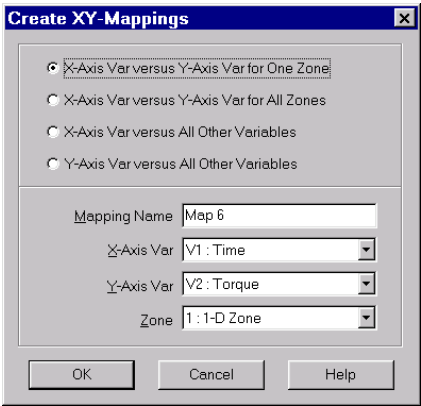

Figure 8-3. The Create XY-Mappings dialog.
2. Click Create Map. The Create XY-Mappings dialog appears, as shown in Figure 8-3.